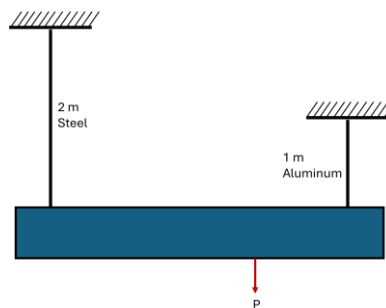

Figure 4.2: Rigid Beam for problem 4.II
- II. Consider a rigid beam supported in a horizontal position by two rods as shown in *figure 4.2*. The steel rod has a cross-sectional area of 1 cm^2 and Elasticity modulus of 200 GPa , while those of aluminum rod are 2 cm^2 and 100 GPa respectively. For the beam to remain horizontal,